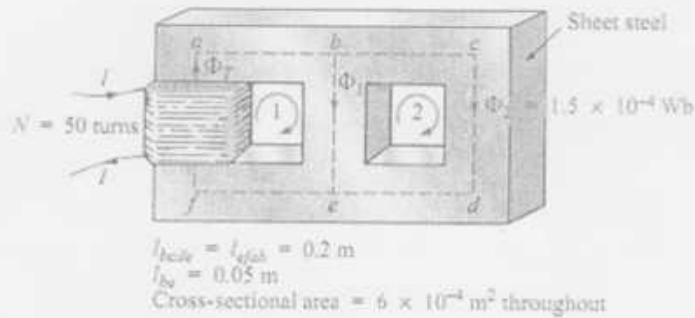

Figure 1
1. a. Determine the current I required to establish a flux of $1.5 \times 10^{-4} \text{ Wb}$ in the section of the core shown in figure 1 [15]